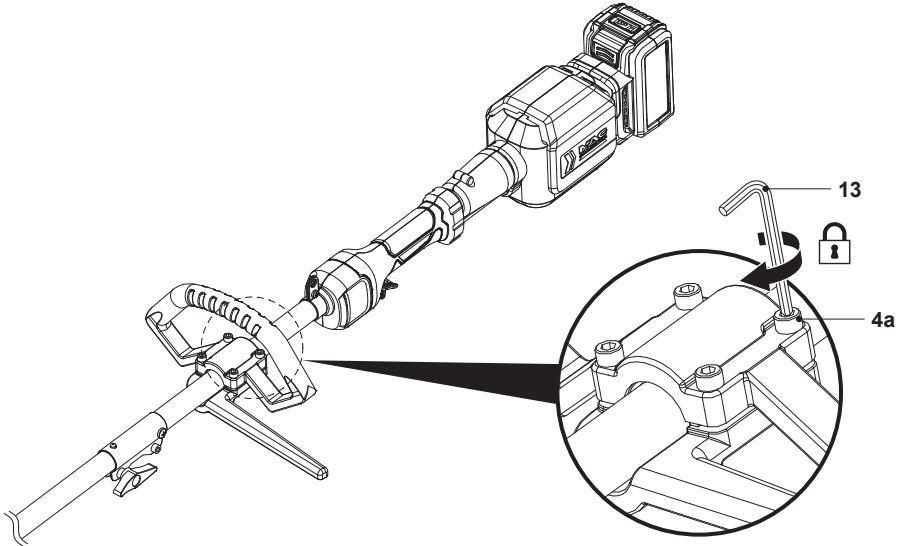

Fig. 4
Check that the auxiliary handle (4) is securely tightened and the barrier (5) is pre-fixed on the user side. If not, reassemble it and tighten the four mounting bolts (4a) with a suitable hex key (Fig. 4).